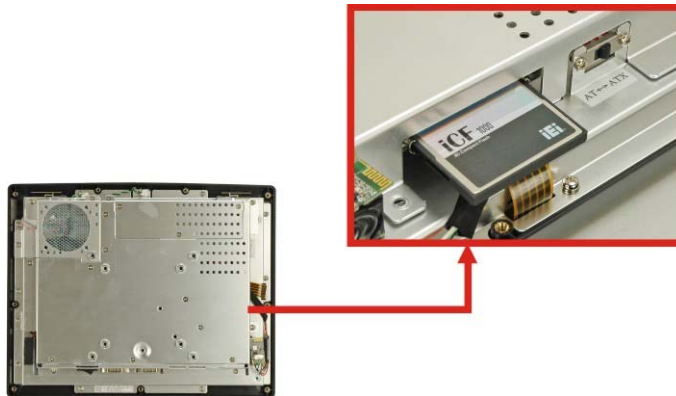

Figure 4-3: CF Card Location
Step 1: Locate the CF slot. Insert a CF card into the slot (**Figure 4-3**).